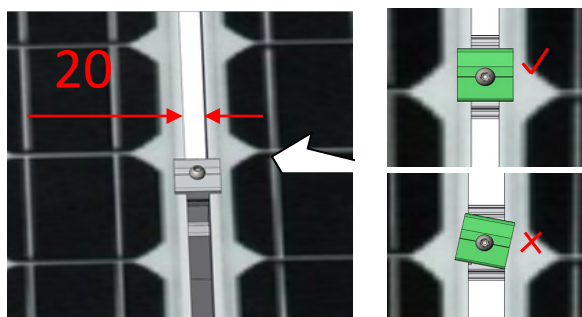

Fig.31
Step 5 Place the next framed PV Module into the other side of Universal Clamp. Make sure the Grounding Clip of the Universal Clamp will be fully covered and ensure the frame of PV Module is closely in contact with Universal Clamp as shown in Fig. 31. Note the 20mm gap when using Universal Clamps.